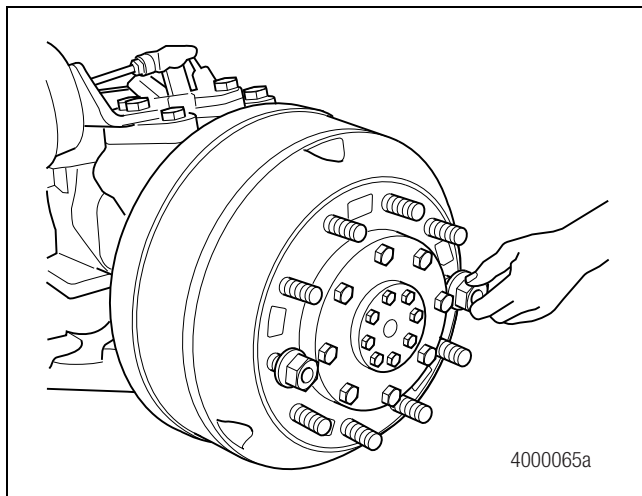

Figure 7.30
- Install the brake drum. Figure 7.30.